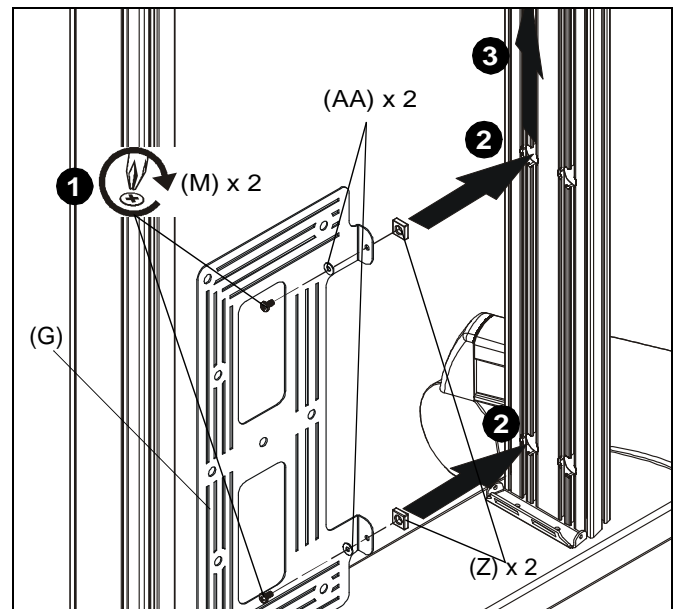

Figure 3
1. Loosely install two #10-24 x 3/8" Phillips head machine screws (M) through two #10 washers (AA), holes in accessory bracket (G) and into two #10-24 square nuts (Z). (See Figure 3)
2. Insert two #10-24 square nuts (Z) into two openings on column channel. (See Figure 3)
3. Lift accessory bracket (G) to desired mounting position. (See Figure 3)
4. Tighten screws to secure in position. (See Figure 3)